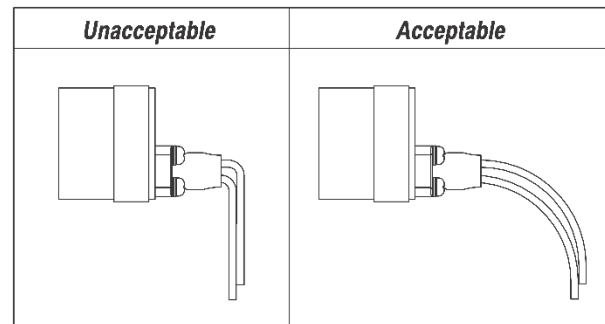

Figure 3
5. Route and secure the cable so that any side-load pull is minimized. This is important for proper alignment when mating. Refer to Figure 3.